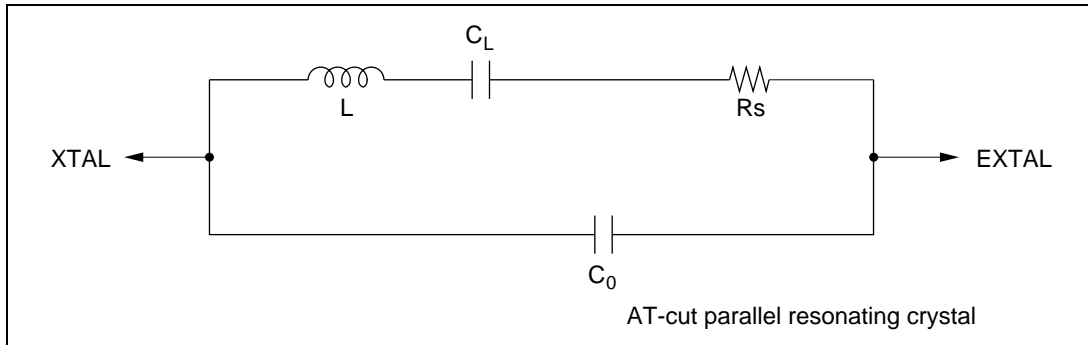

Figure 6-3 Equivalent Circuit of External Crystal
(2) Crystal Oscillator: Figure 6-3 shows an equivalent circuit of the crystal resonator. The crystal resonator should have the characteristics listed in table 6-2.